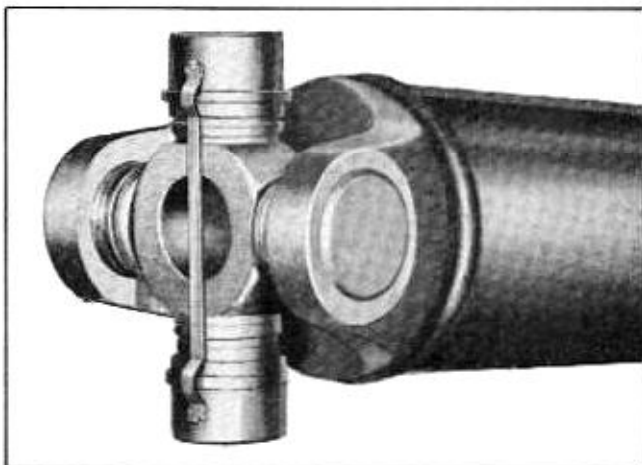

Fig. 4-47 Bearings Held in Place by Tie Wire
1. Remove "U" bolt nuts, locking plate and "U" bolts. Use a heavy rubber band to hold bearings onto journal if tie wire has been removed to prevent loss of needle bearings when rear joint is disconnected (Fig. 4-47).